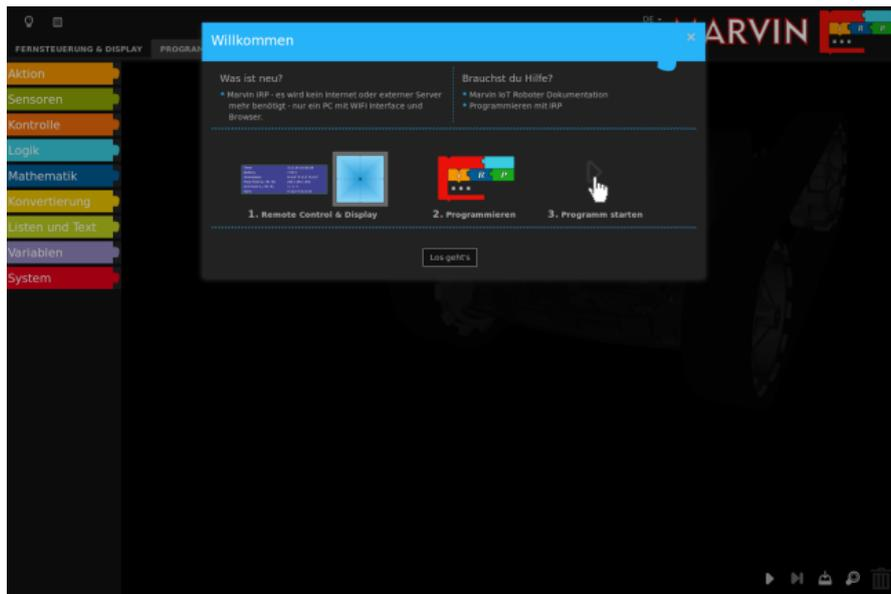

Figure 2.5 Marvin WebIDE Welcomescreen
5. Open the browser and enter the IP 192.168.1.1. You should see Figure 2.5 in the browser.
You should see Figure 2.5 in the browser.